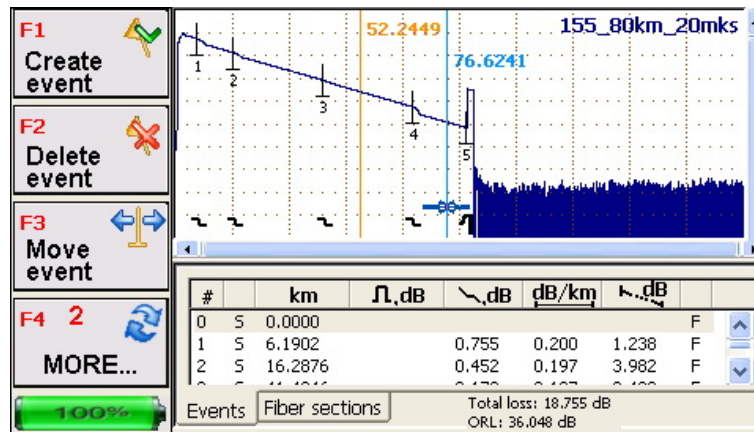

Figure 7.30
- in the activated window (see **Figure 7.30**) press the button